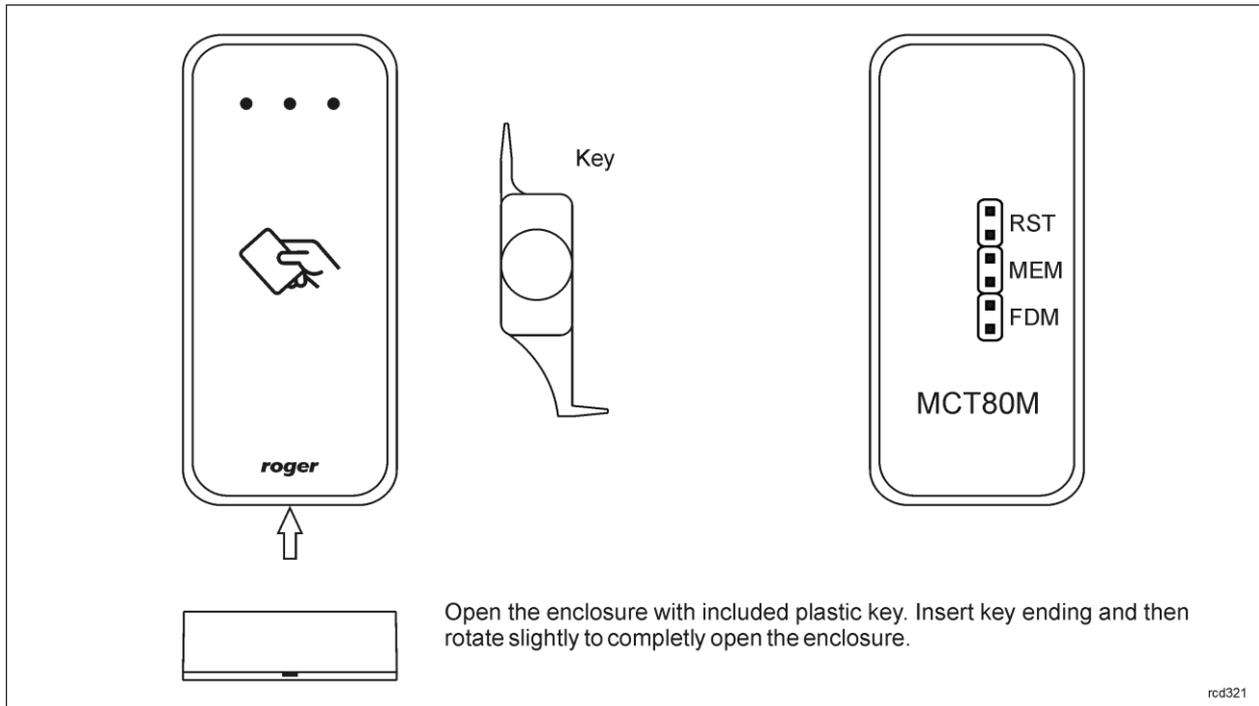

Fig. 4 Enclosure disassembly
2. Place jumper on MEM contacts (fig. 4).
1. Place jumper on FDM contacts (fig. 4).